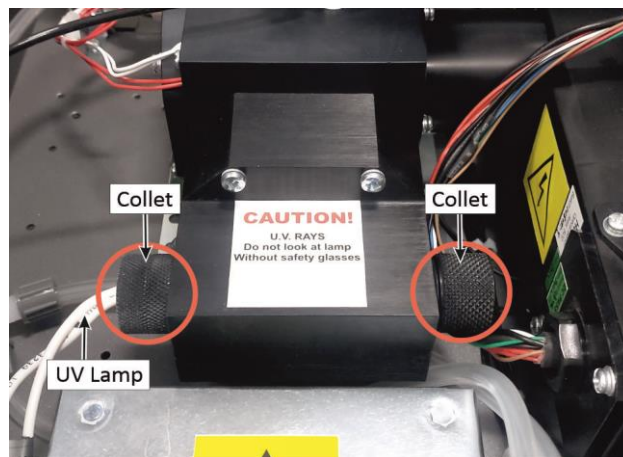

Figure 147 – Collets of the UV Lamp
4. Refer to Figure 147. Loosen the collets (do not remove) at each end of the lamp.